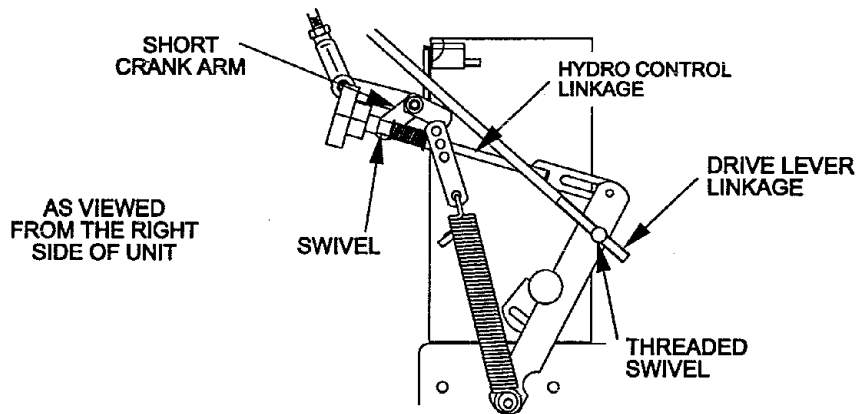
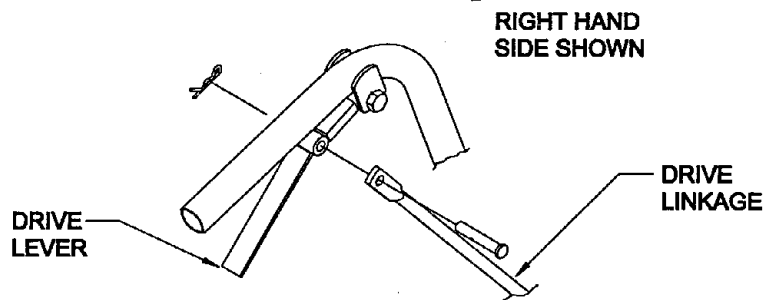

FIG. 6
FIG 7
- 3.12 Thread each drive linkage into the threaded swivel. (See Figure 6). Connect the upper end of each drive linkage to the drive levers. Fasten with a long clevis pin and cotter pin from the bolt bag. Be sure the clevis pin is first inserted through the drive linkage and then through the drive lever from the outside before installing the hairpin cotter (See Figure 7).